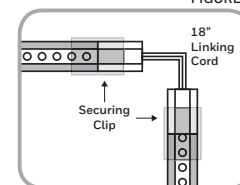

FIGURE 6
10. Snap a provided clear securing clip over both connection points of the linking cord to the Bright Strips (see Figure 6).